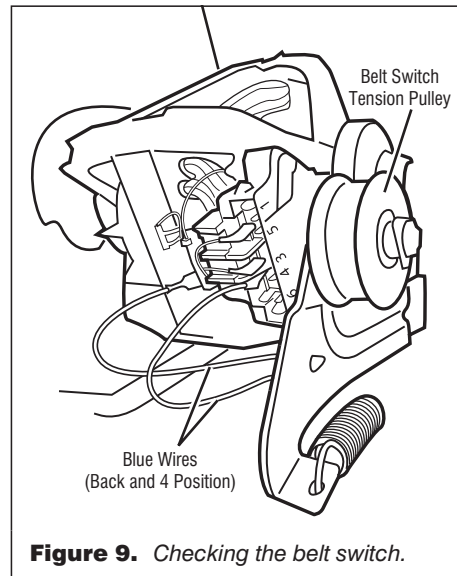

Figure 9. Checking the belt switch.
7. Check the belt switch by measuring resistance between the two blue wires as shown in figure 9, while pushing up the belt switch tension pulley.